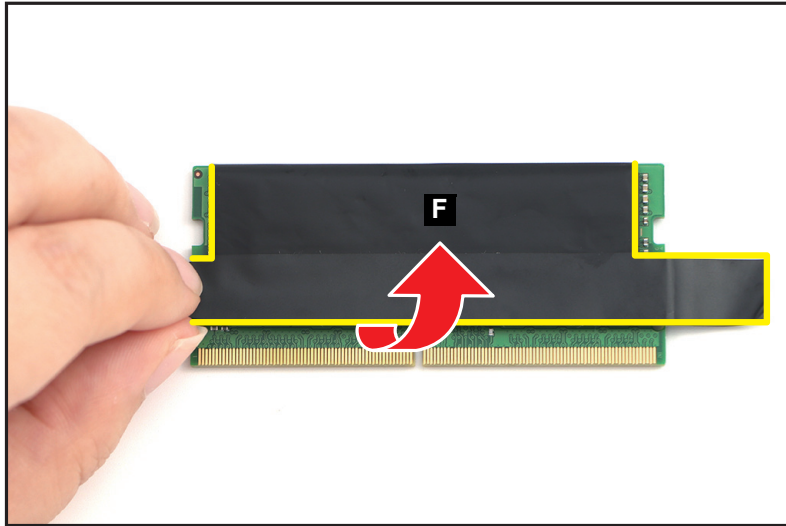

Figure 1-29. DIMM Module Removal
6. Peel off the composite foil with thermal pad (F) from the DIMM module (Figure 1-29).